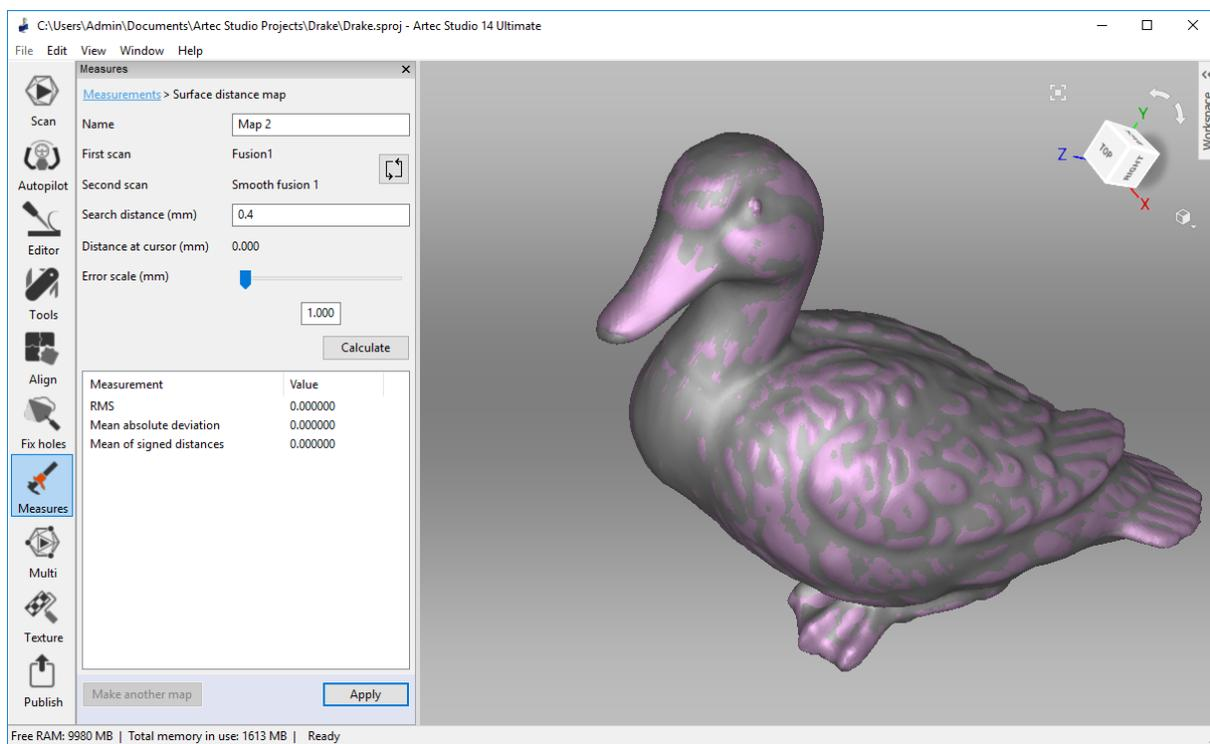

Figure 116: Specifying parameters for surface-distance map calculation.
3. If necessary, specify the name of the distance map in the *Name* field of the *Measures* panel (see Figure 116). By default the application creates new distance maps under the names *Map 1*, *Map 2* and so on.